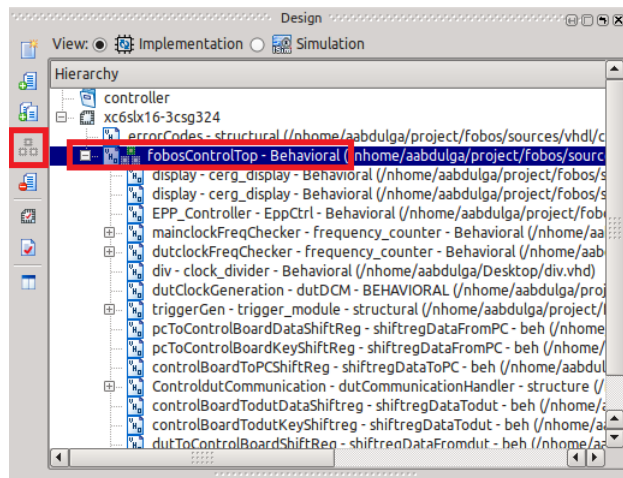

Figure 4.4: Setting Top-level Module
- Set the `fobosControlTopLevel` module as the top-level module for this project (See Fig 4.4).